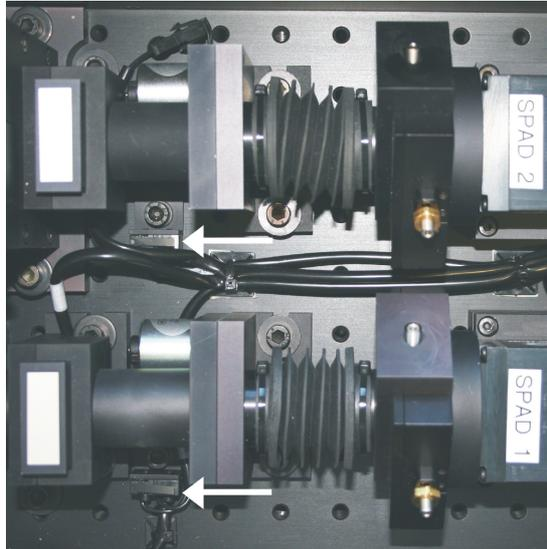

Fig. 5.2: Manual shutter control in the Dual SPAD Channel Detection unit
7. **Remove** the **lid** from the Dual Channel SPAD Detection Unit. There's an automatic interlock that closes the shutters in front of the detectors upon removing the lid. For adjustment, the lid has to be open, but the shutter in front of the detector to be adjusted must be opened as well. The **shutter** of this detector can be **opened** by pushing the **manual shutter control** levers indicated in Fig. 5.2. Every shutter control switch controls the shutter of just the detector next to it, the shutter in front of the other detector remains closed. During the alignment procedure the switch has to be pressed the whole time